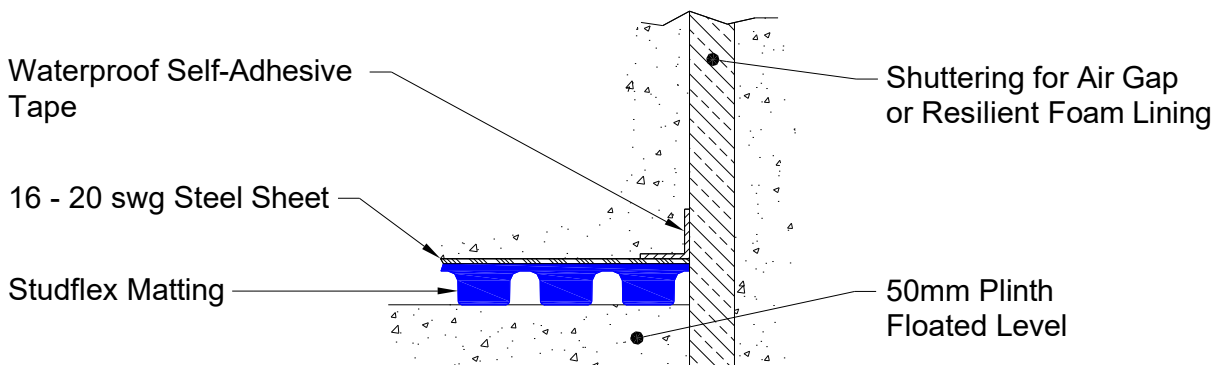

Figure 3
3. Steel sheets are supplied to bridge over the exposed studs and/or any gaps between mats. Waterproof tape is provided for sealing all joints and seams before pouring concrete. See Figure 3.